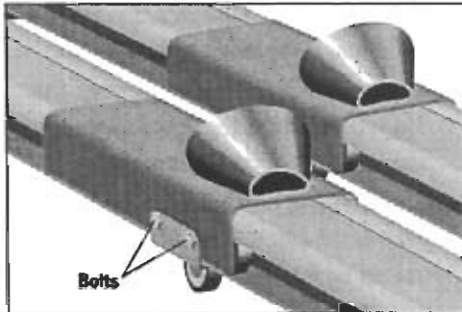

Figure 11
3. Use the 7/16-inch socket with extension, to remove the bolts that secure the rear foot to the side rails (Figure 11).